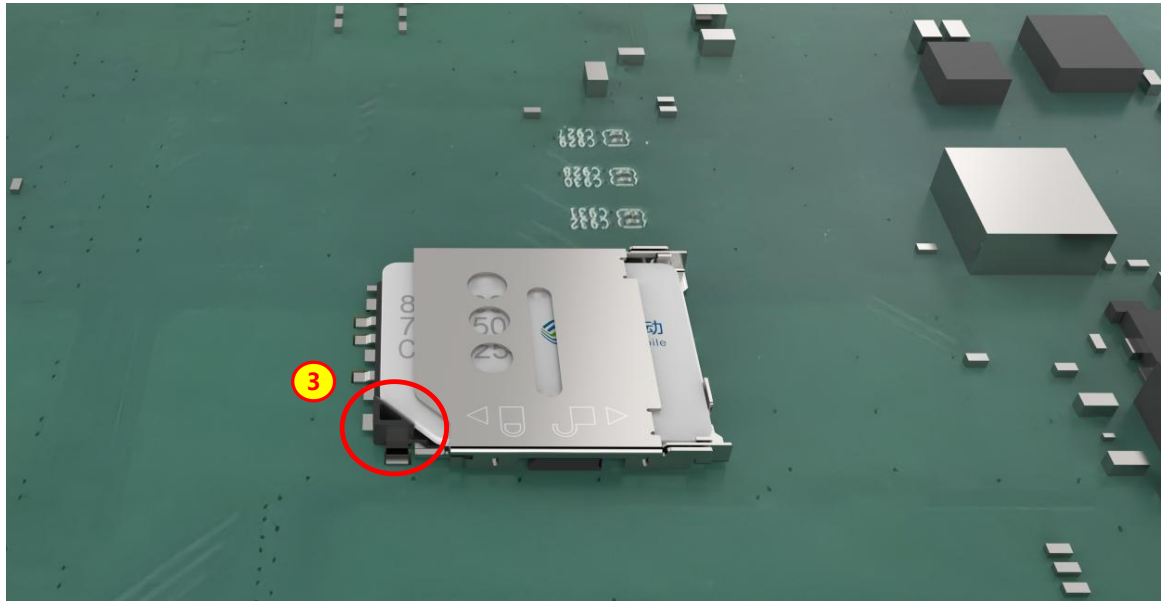

Figure 3-7: Install the SIM Card and Close the Upper Cover
Step 3: Place the SIM card onto the SIM card slot, then close the upper cover of the SIM card slot (See Figure 3-7).